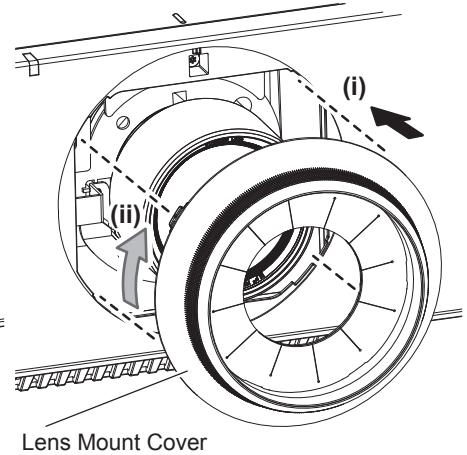

Fig. 3
- 3) Attach the Lens Mount Cover. (Fig. 3)